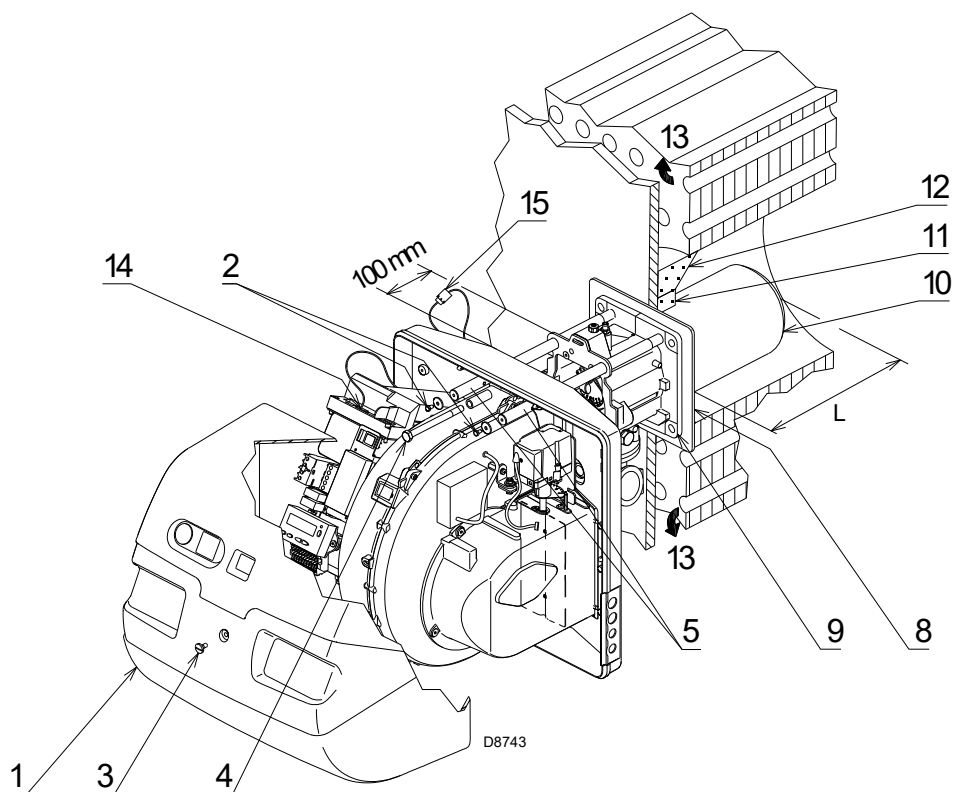
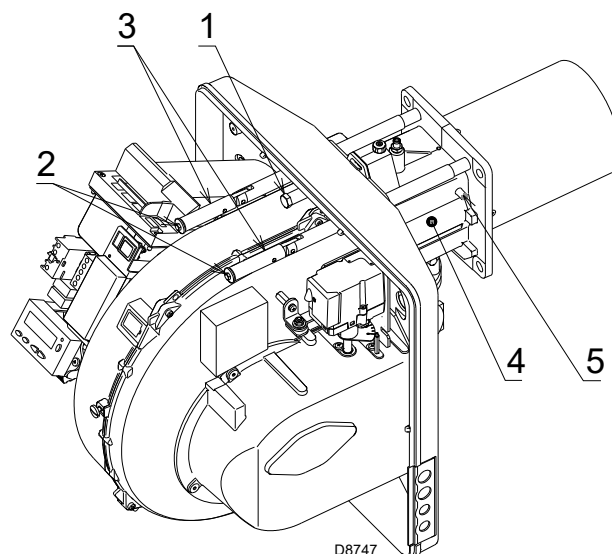

Fig. 16
Fig. 19
For boilers with front flue passes 13)(Fig. 16), a protection in refractory material 11) must be inserted between the boiler refractory 12) and the blast tube 10).
For boilers with a water-cooled frontal, a refractory cover is not necessary 11)-12)(Fig. 16), unless expressly requested by the boiler manufacturer.
Separate the combustion head from the rest of the burner, as in Fig. 16; proceed as follows:
At this point of the installation, the combustion head is fixed to the boiler as shown in Fig. 16.
- reassemble the burner on the guides 3)(Fig. 19) at about 100 mm from the pipe coupling 4) - burner in the position shown in Fig. 16 at page 22;
- insert the probe and electrode cables, then slide the burner as far as the pipe coupling - burner in the position shown in Fig. 19;
- connect the plug of the servomotor 14)(Fig. 16 at page 22) and tighten the cable grommet 15);